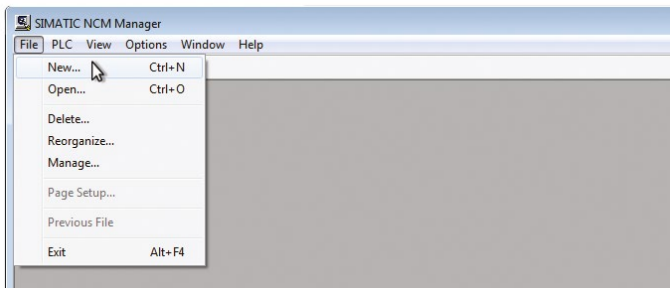
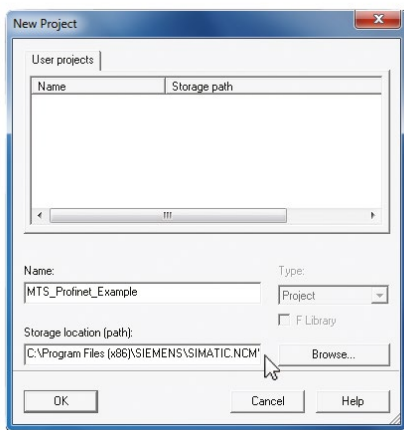

Fig. 50: Create a new project (source: Siemens)
Fig. 51: Assign a project name and a memory location (source: Siemens)
2. Create a new project under “File” → “New” (Fig. 50). Subsequently, select the “Name” and the “Path” of the project file (Fig. 51).